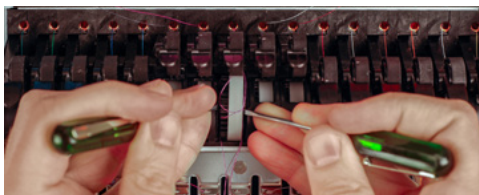

Figure 2 - Prying Thread Feeder Roller Loose
2. Using two thin bladed flat screw drivers, carefully pry the roller out of the assembly as shown in Figure 2 above until you can pull it out easily with your finger. The thread feed gear removal tool could also be used.